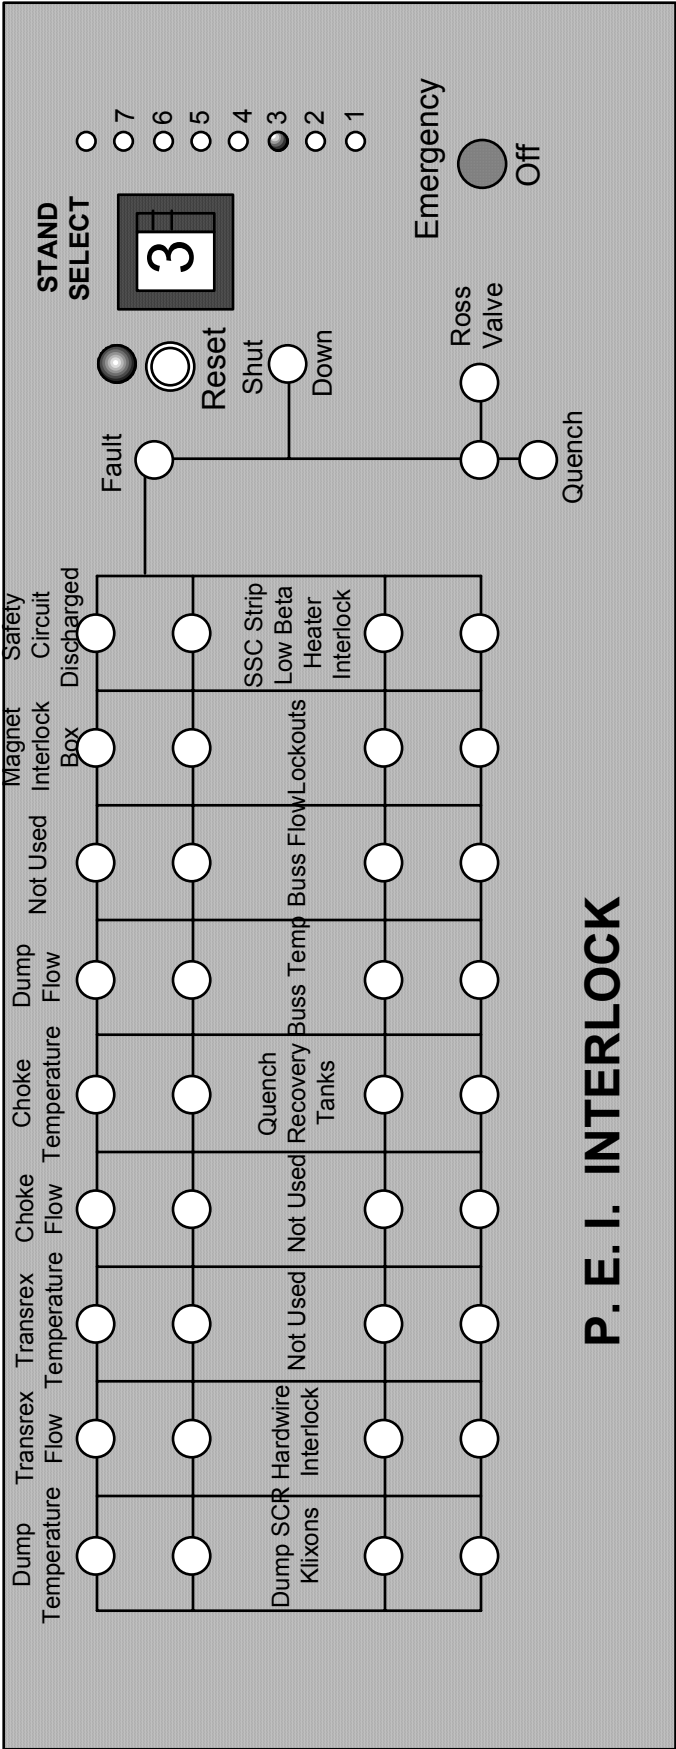

FIG. 5
- 3.1 Locate the P. E. I. Interlock Box (Trendler Box) in **rack #9** in the Control Room (Fig. 5). Set the Stand Select switch to **#0**. Disregard the stand select LEDs for this Trendler Box.
- 3.2 Locate the P. E. I. Interlock Box (Trendler Box) in **rack #10** in the Control Room (Fig. 5). Set the Stand Select switch to **#3**. The LED corresponding to the stand number should light up.
- 4.4 **Reset the P.E.I. interlock box** (Fig. 5) located in rack #10 in the control room. This box is often referred to as the Trendler box in recognition of the designer of its